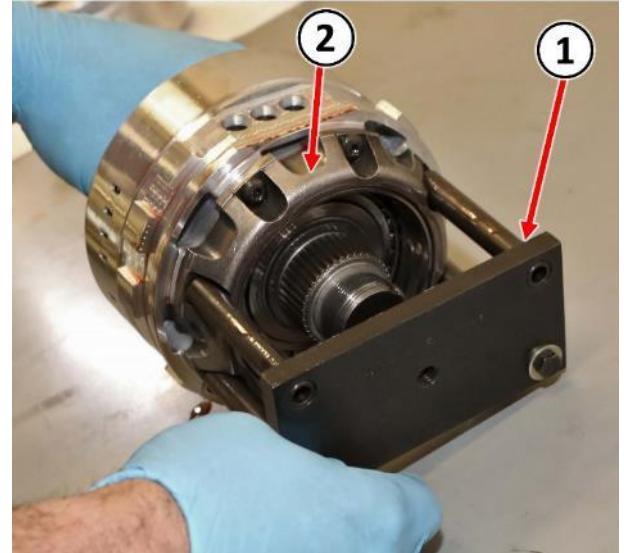

Figure 38 – Puller Adapter
53. Remove the Puller Adapter 9908 (1) from the bearing retainer (2) (Figure 38).
62. Install the Puller Adapter 9908 (1) to the bearing retainer (2) then secure the Puller Adapter 9908 (1) in a vise to hold the underdrive compounder assembly during assembly (Figure 38).